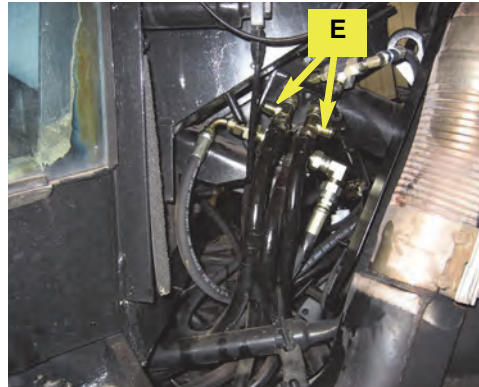

Figure 6b: Installed steering output fittings
b. Install the run-tee fittings (E) between the rubber steering lines and orbital as shown (Figure 6b).